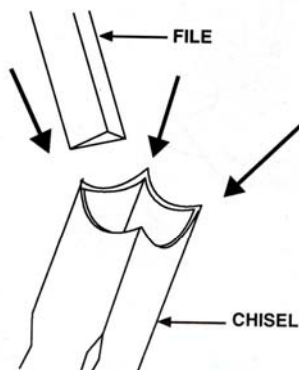

FIGURE 9
3. Use a small, triangular, smooth file to relieve the inner corners of the chisel. See figure 9.